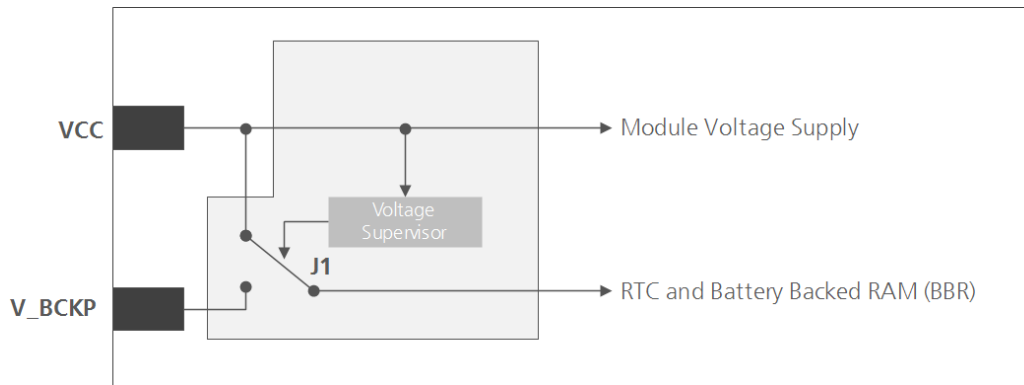

Figure 1: Backup battery and voltage
-  As long as **VCC** supplies the CAM-M8 antenna module, the backup battery is disconnected from the RTC and the BBR to avoid unnecessary battery drain (see Figure 1). In this case, **VCC** supplies power to the RTC and BBR.